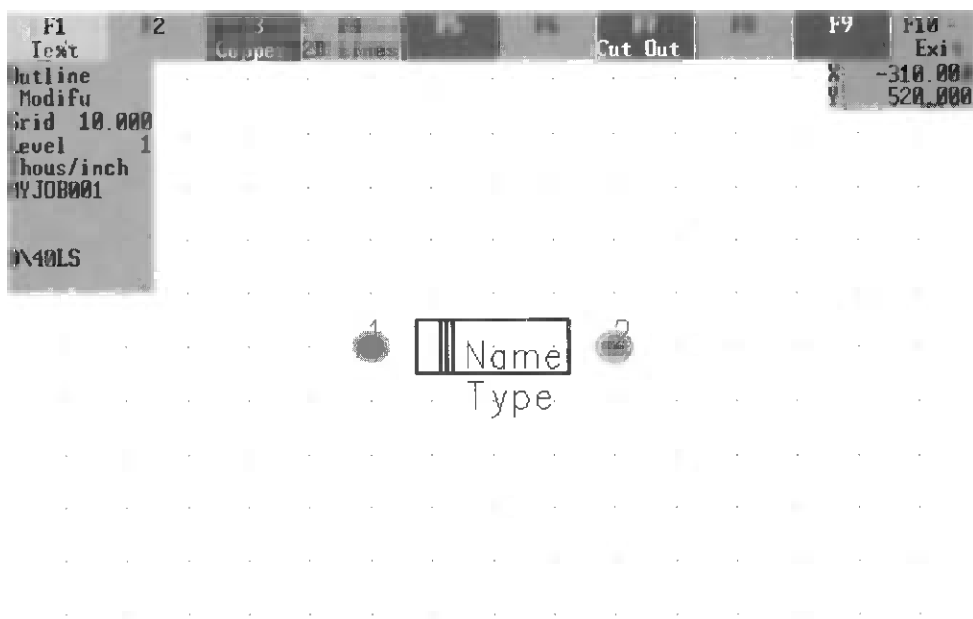

Figure 10-7 DV40LS Part Layout
- **D1** (1N4007 diode): Refer to Figure 10-7 for the D\40LS pin arrangement. OrCAD uses the pin names CATHODE and ANODE for all diodes and LEDs. Change the pin names to pin numbers 1 and 2 respectively.